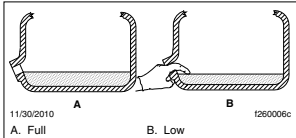

Fig. 1. Checking Transmission Fluid Level
For an example of a 108SD and 114SD Maintenance Manual page, see Fig. 1.
3. Using your gloved finger or a bent pipe cleaner, check if the fluid is level with the fill opening. See Fig. 1.